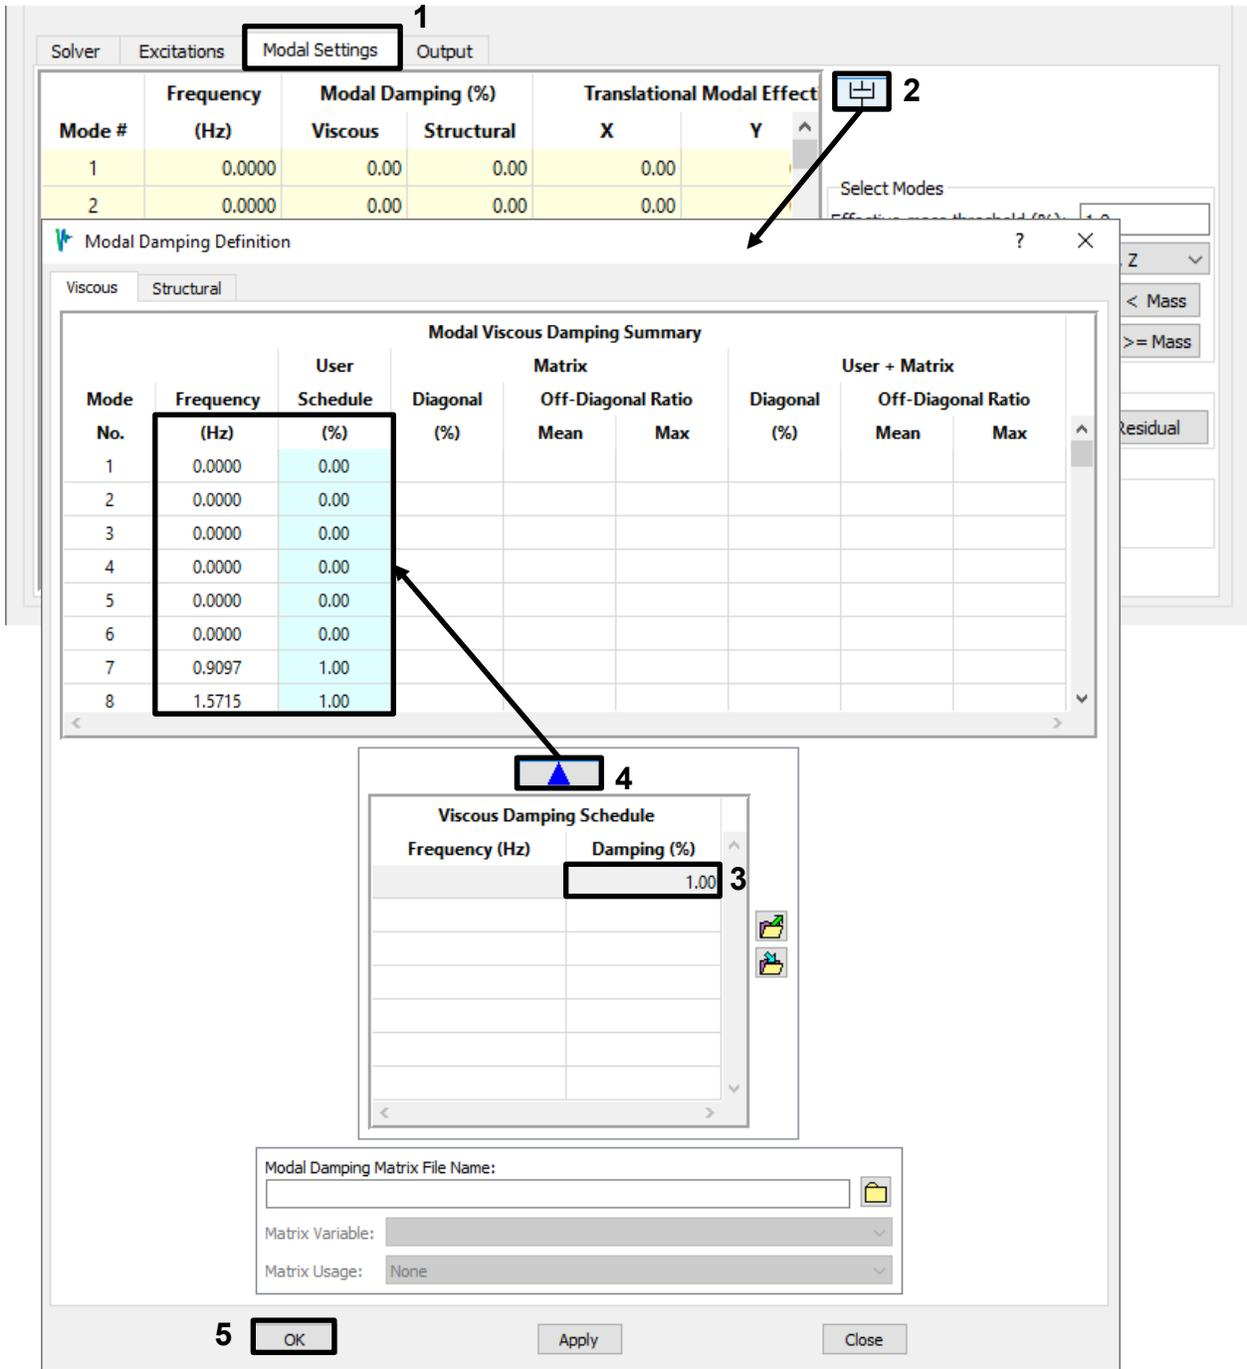

Figure 4-96. Use the damping schedule to assign 1% damping to all flexible modes.
- Go to the *Modal Settings* tab. This model has too many modes to set individually, so bring up the damping dialog and use its damping schedule to set the damping of all modes to 1% (Figure 4-96). Rigid body modes will remain at 0% damping.